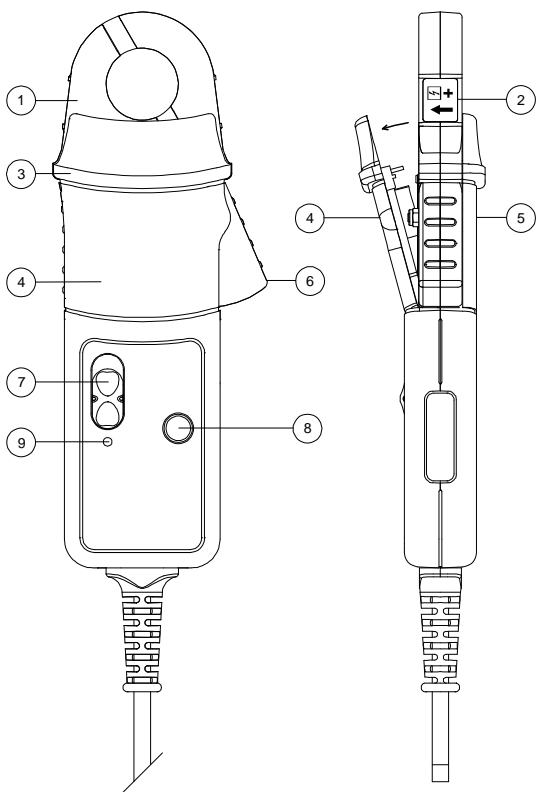

FIG 1
- Do not hold the probe anywhere beyond the tactile barrier see FIG 1.
The LED will flash when the minimum operating voltage is approached. Refer to Fig 1. Use the following procedure.
Loosen the captive screw which secures the battery cover. Lift the cover through 30° and pull it clear of the probe body as shown in Fig 1. Replace the battery and re-fit the battery cover and fasten the screw .